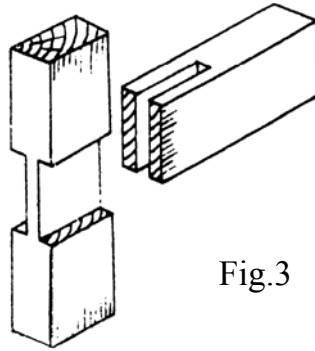

Fig.3
23. Name the type of joint shown in figure 3.